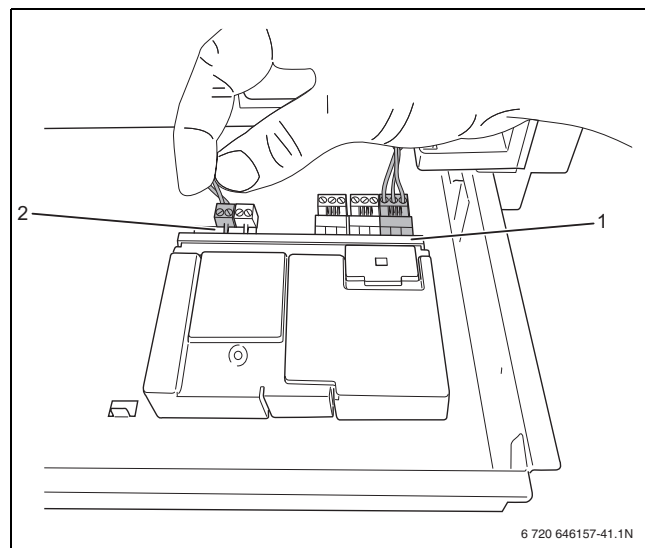
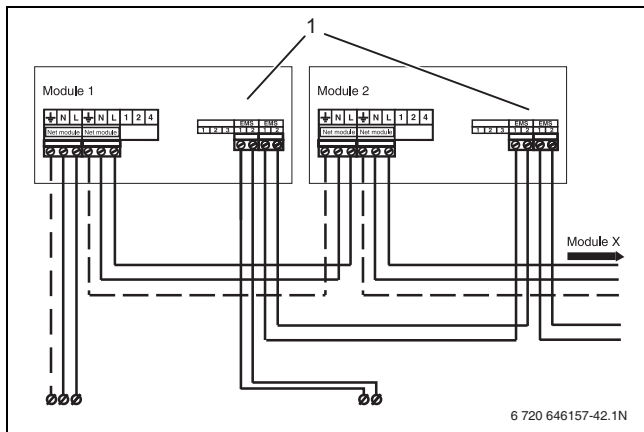

Fig. 45 Interconnecting modules
Fig. 46 Connecting several modules
- ▶ The module may have the letters RC or EMS above the connection (→ fig. 46, [1]).
- ▶ Connect the free connector of the EMS bus connecting cable (→ fig. 45) to the first module (→ fig. 46).
- ▶ If more modules are used, the EMS bus connection for the second module may be branched off from the first module using the cable enclosed with the module (→ fig. 45 and fig. 46).
- Connect the wire from terminal 1 to terminal 1 and from terminal 2 to terminal 2 (→ fig. 45 and fig. 46).